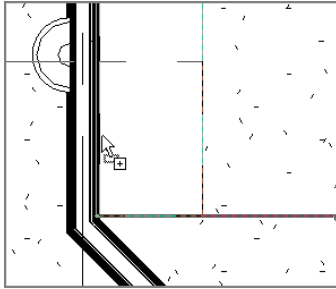

FIGURE 9.57: Placing the 36" (900mm) double-door, two-drawer base cabinet
6. Place a Base Cabinet Double Door & 2 Drawer 36" (900mm) in the position shown in Figure 9.57.